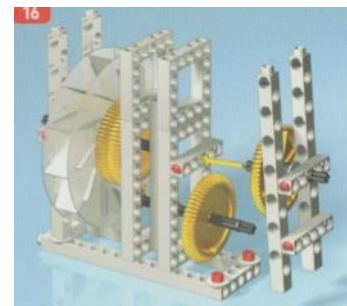

Figure 7: Third Gear Assembly
**Use Figure 7 for steps 22-25.**